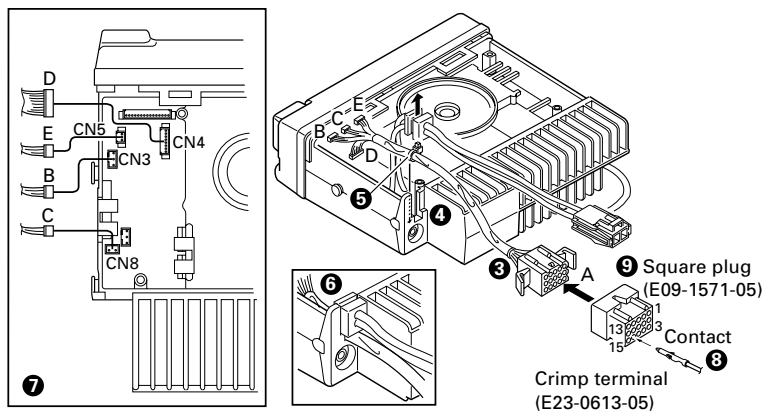

Fig. 2
4. Replace the DC cord bushing (6).
5. Connect the KCT-19 to the TX-RX unit (A/2) as shown in Figure 2 (7).
6. Connect the KCT-19 to the external accessory by inserting the crimp terminal (8) into the square plug (9), both of which are supplied with the KCT-19.